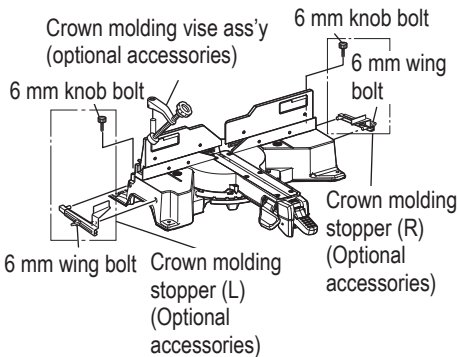

Fig. 51-a
- (1) Crown molding Stopper (L) and (R) (optional accessories) allow easier cuts of crown molding without tilting the saw blade. Install them in the base both-sides side to be shown in Fig. 51-a. After inserting Tighten the 6mm knob bolts to secure the crown molding Stoppers.